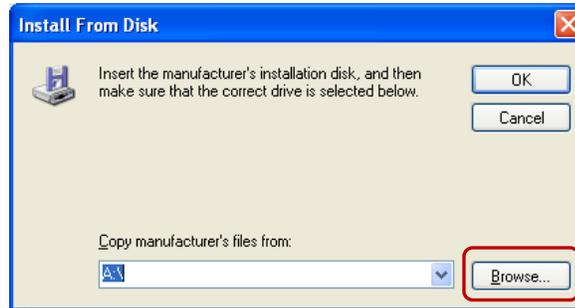

Fig.22
17. Click Browse as shown in Figure 22.